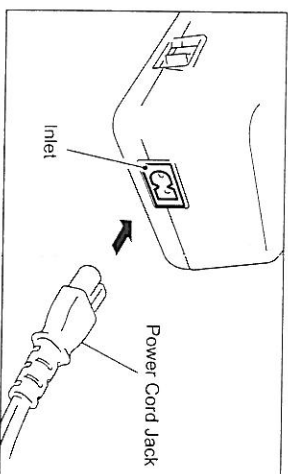

Fig. 11
- 1) Insert the power cord jack into the inlet at the back of the battery charger. (Fig. 11)